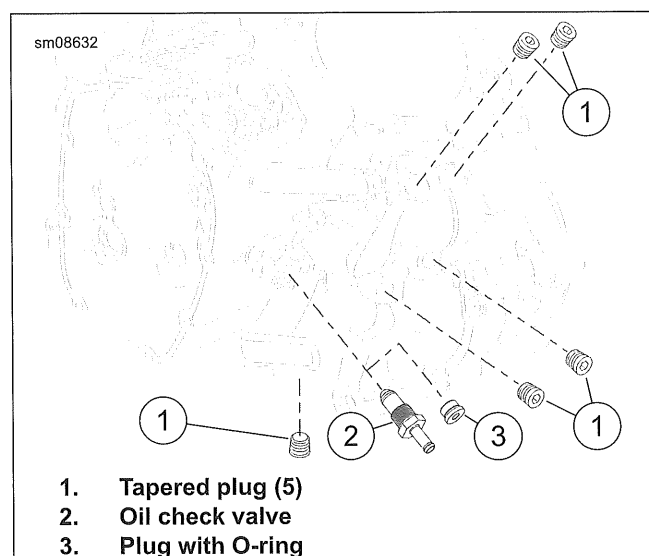

Figure 4-74. Crankcase Pipe Plugs
See Figure 4-74. Turn pipe plug or oil check valve counterclockwise to remove.
1. See Figure 4-74. Install tapered plug (1).